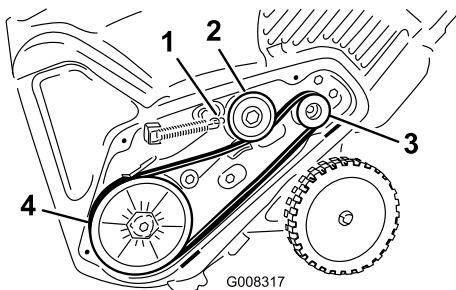

Figure 35
5. Install the new drive belt, routing it as shown in (Figure 35).
8. Install the brake spring onto the idler arm (Figure 35).